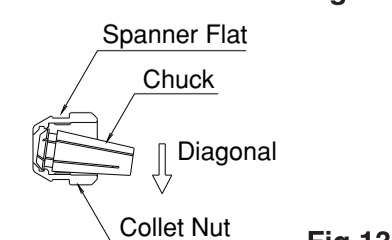

Fig.13
- Hold the chuck nut in one hand and push the collet diagonally toward the spanner flat to remove the collet from the chuck nut (Fig.13)
- The new chuck can be attached by inserting the new chuck diagonally toward the spanner flat(Fig.13) and pressing straight down.